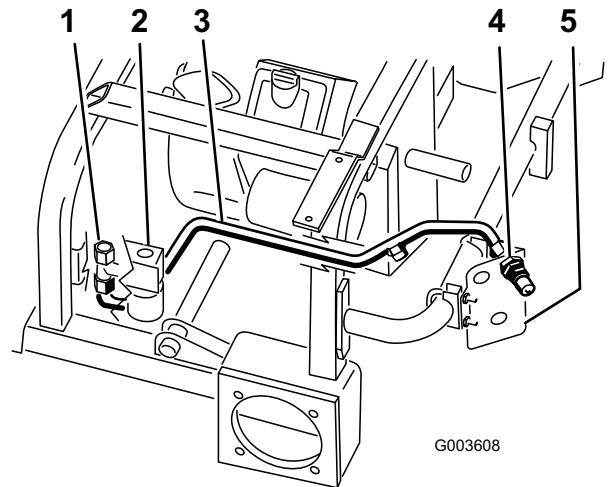

Figure 14
1. Position hydraulic line number 1 into the machine as shown in Figure 14.
2. Install hydraulic line number 1 to the tee fitting assembled to the side of the valve (Figure 14).
3. Install the hydraulic line number 1 to the upper male coupler (Figure 14).